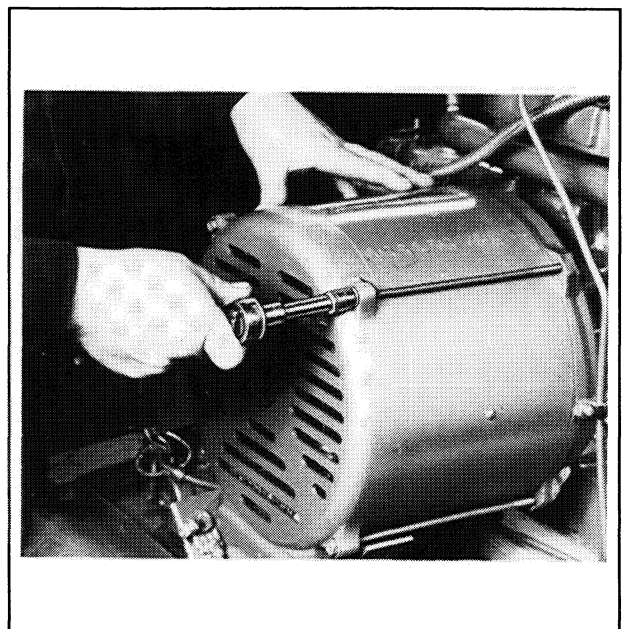

Figure 8-8. Removing Overbolts
15. Remove four overbolts securing generator end bracket. Figure 8-8.